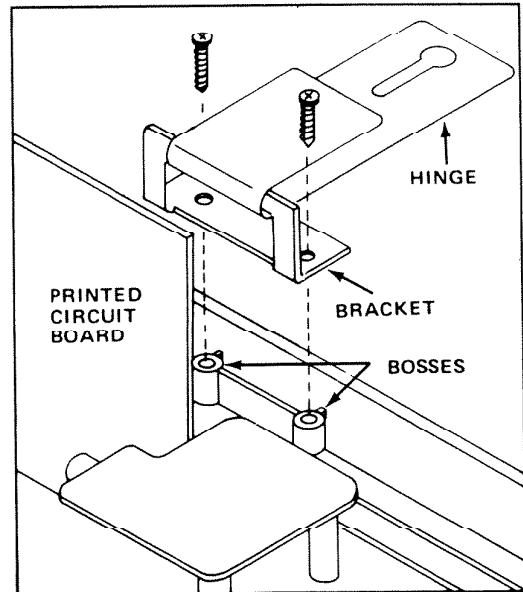

FIGURE 2
2. Use two No. 6 x 9/16" screws (provided) to secure each hinge and bracket assembly to the mounting bosses on the master panel. See Figure 2.